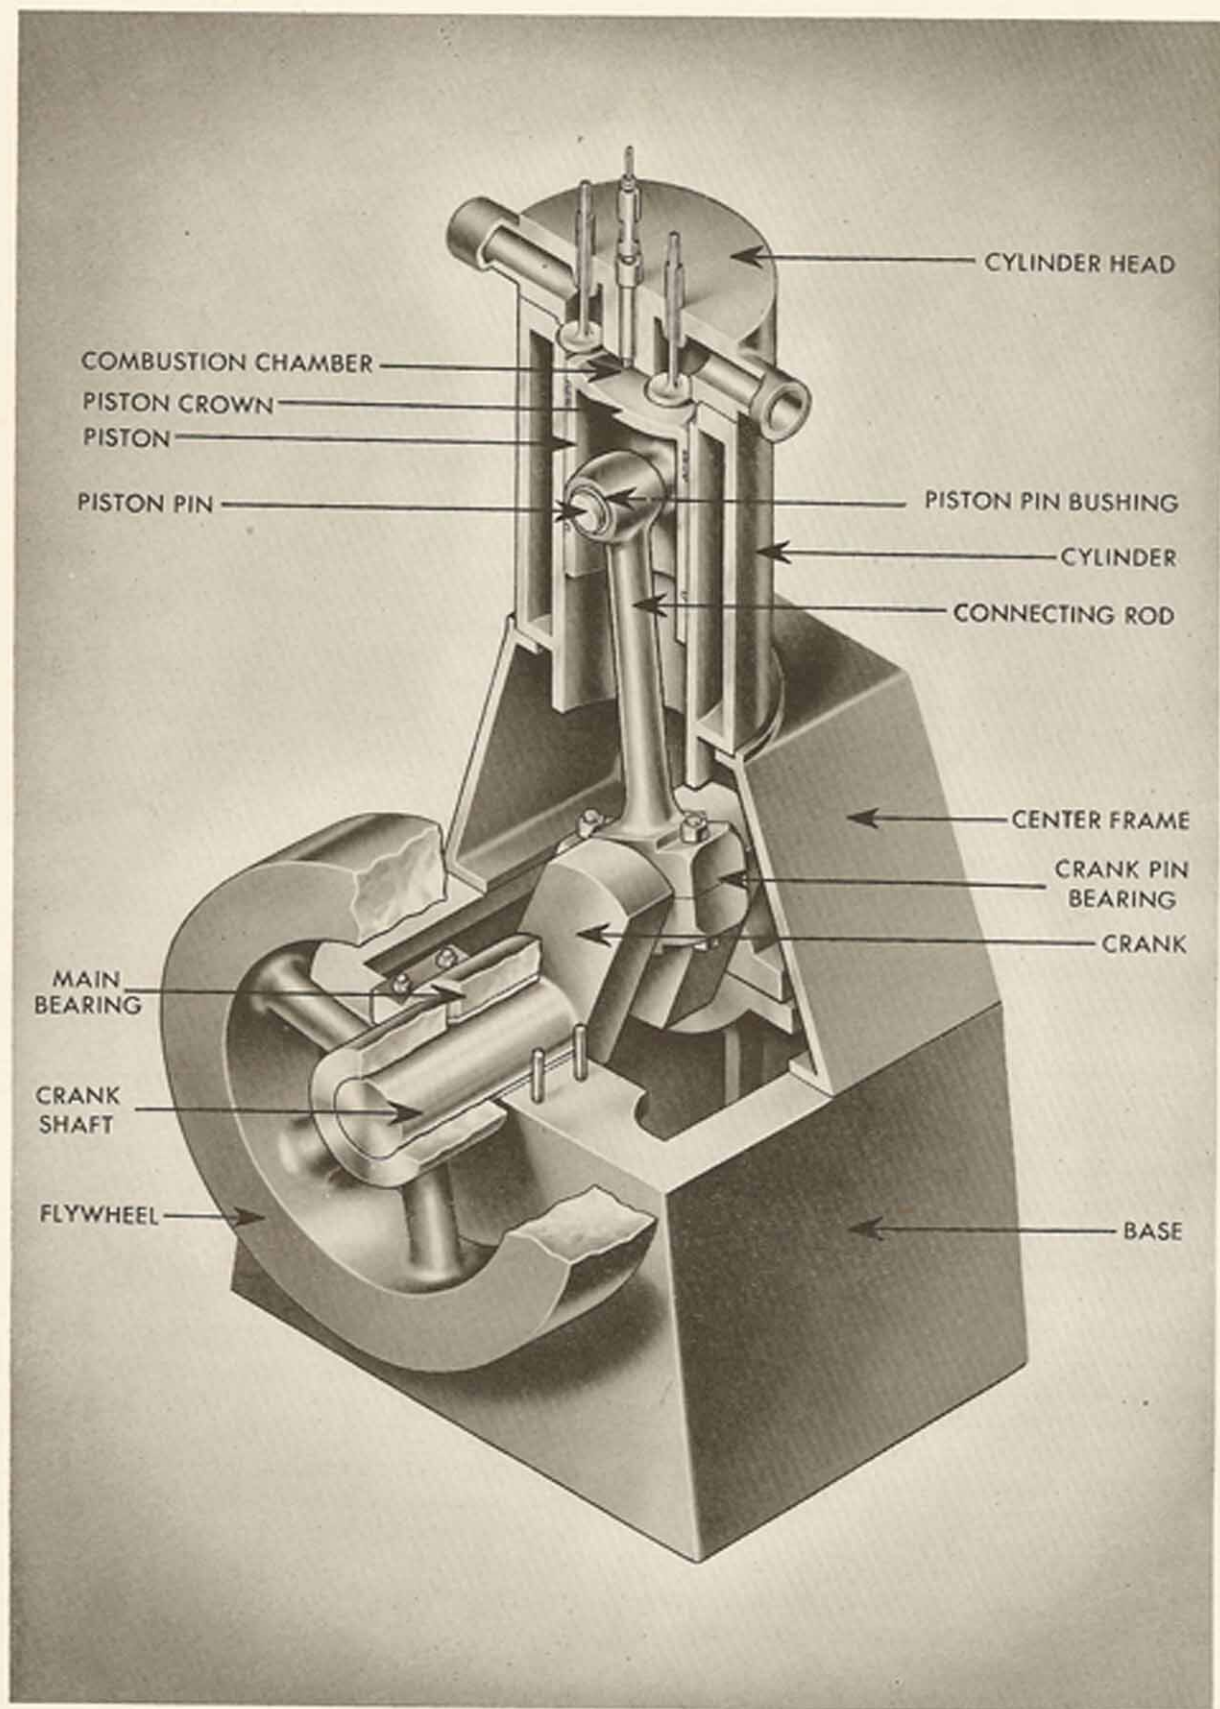

Figure 1-2
5. A SIMPLE ENGINE: Before we see how the burning of fuel can be made to produce motion that will do work, let us consider a simple form of Diesel engine, such as the one shown in Figure 1-2. (In references to illustrations throughout this manual, the first number indicates the section, and the second number indicates the drawing or photograph in that section.) This is a view in which some parts of the engine are cut away as if sawed off, so that the inside working parts can be seen. There is a cylinder and a cylinder head. A piston is inside the cylinder and is free to slide up and down. Sometimes this piston is called the power piston, and the cylinder the power cylinder, to distinguish them from pistons and cylinders used in auxiliaries of the engine. The piston is hollow, but is closed off at the top by the piston crown. The clearance between the piston and the cylinder wall is sealed by piston rings.
In Figure 1-2 the piston has been to the top of its stroke and is just starting a downstroke (a movement of a piston from top position to bottom, or from bottom position to top, is called a stroke). The combustion chamber was filled with air at high pressure — about 400 pounds per square inch. This air was very hot, about 1,000 degrees Fahrenheit.
Into this air, which we might call "red hot," a small amount of Diesel fuel has been sprayed. As 1,000 degrees Fahrenheit is well above the temperature needed to ignite Diesel fuel, it starts to burn, and at the point shown in Figure 1-2, this burning is well under way.
13. THE MEANING OF "CYCLE": When the power stroke begins we are back to the situation shown in Figure 1-2. As a movie-goer would say, "this is where I came in." From now on, the engine goes through the motions all over again. What happens in an engine cylinder from any one occurrence (usually called an event) to a repetition of that occurrence is called a cycle. You could call a movie program from the beginning of the main feature, to another such beginning of the same main feature, one cycle. After that, there is just repetition.
14. FOUR CYCLE: To review the engine cycle, we had (1) a power stroke, (2) an exhaust stroke, (3) an inlet stroke, and (4) a compression stroke. That is a total of four strokes, or a four-stroke cycle. The English still call it that, but Americans have shortened the name to FOUR CYCLE.
Some of the energy of the power stroke can be stored in a flywheel, such as is shown in Figure 1-2. On the power stroke, the rotational speed of the flywheel is slightly increased, thus building up the momentum of the flywheel. Momentum is the term applied to the tendency of any heavy body in motion, to keep moving. As the engine goes through the power-consuming strokes, flywheel momentum supplies the energy needed. As energy is fed back to the engine, the flywheel speed decreases slightly.
The illustrations of this section show several other things about engine construction. For example, Figure 1-2 shows that the crankshaft is supported by, and rotates in, main bearings. Each bearing is made up of two halves, sometimes called top-half main bearing and bottom-half main bearing, and sometimes top main-bearing shell and bottom main-bearing shell.